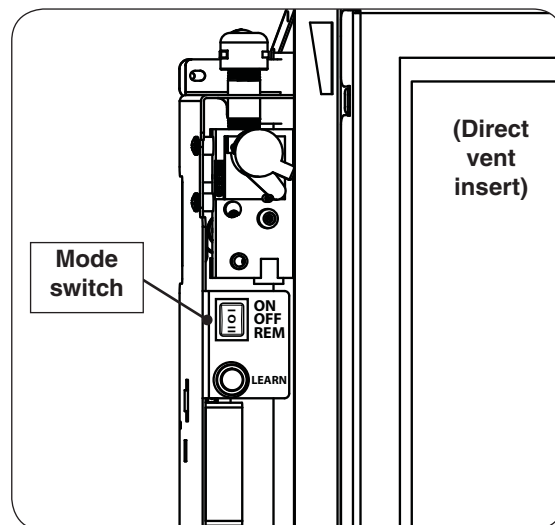
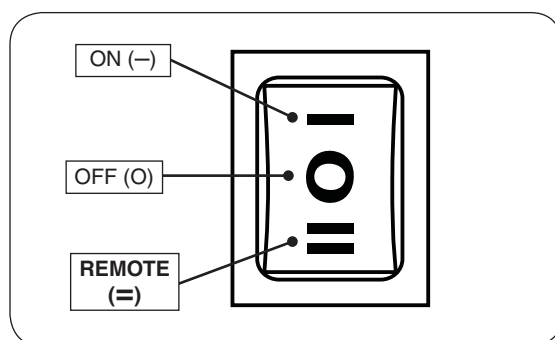

Fig. 26-1 Control box (left side of unit)
Fig. 26-2 Mode switch detail
1. Locate the 3-position mode switch on the control box (see Fig. 26-1). Press the switch down to the **REMOTE (=)** position (see Fig. 26-2). The system will beep.